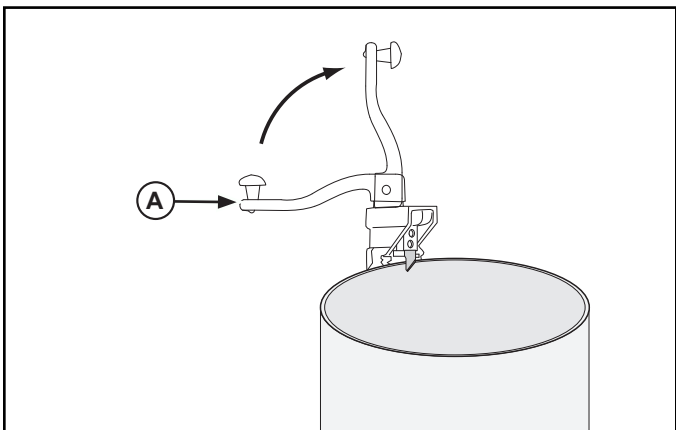

Figure 6. Raising the Handle.
6. Lift the handle (A) to the UP position. See Figure 6.